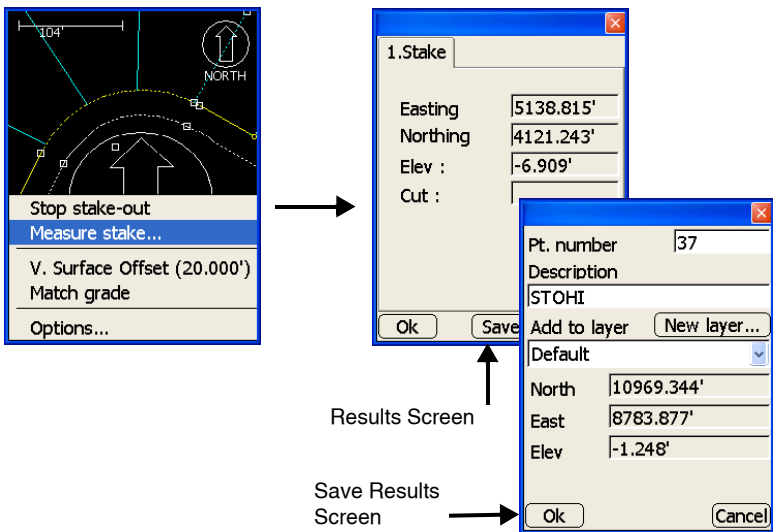

Figure 7-5. Measure Point and Stakeout Results
2. To measure the desired point, press **Survey ▶ Stake-out ▶ Measure stake** (Figure 7-5 on page 7-5).
The **Measuring** dialog box displays while Pocket-3D measures the point. When finished, the **results** screen displays the Easting, Northing, Elevation, and Cut/Fill information for the point (Figure 7-5 on page 7-5).
3. Press **Save** to display the **save results** screen and enter the point number/description and layer/new layer information for the point (Figure 7-5 on page 7-5).
4. Press **Ok** to return to the **results** screen to display Easting, Northing, Elevation, and Cut/Fill information (Figure 7-5 on page 7-5).